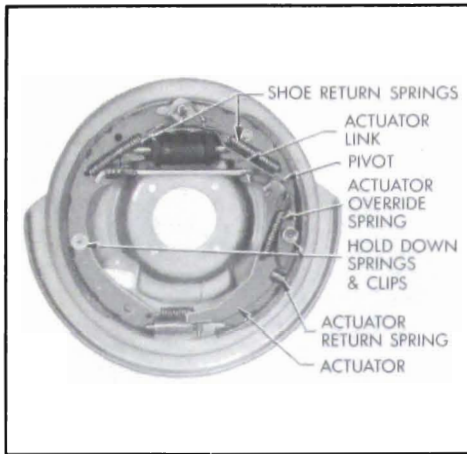

Figure 9-13—Rear Wheel Brake Assembly
6. Separate the brake shoes by removing adjusting screw and lock spring. Remove parking brake lever from secondary brake shoe (rear only). See Figure 9-13.
4. Place brake shoes on backing plate, at the same time engaging shoes with wheel cylinder links. The primary shoe (short lining) goes forward. On rear brakes, connect cable to parking brake lever and install strut and spring between lever and primary shoe as shown in Figure 9-13.
5. Install actuator, actuator return spring and actuating link as shown in Figure 9-13.